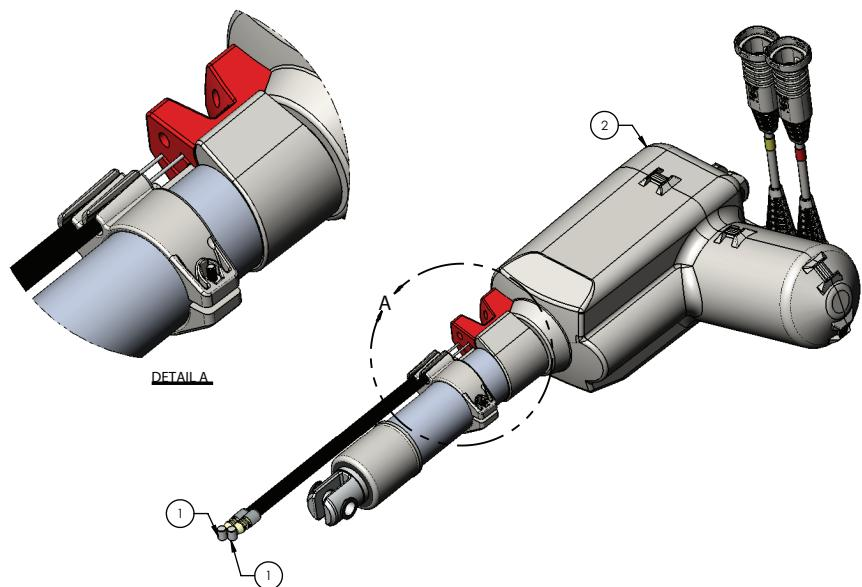

Figure 29 – Gatch CPR pull
11. Using a small flat screwdriver, remove the gray CPR pull retainer from the red CPR pull. A white spacer between the CPR pull and the CPR cable retaining bracket will fall out (Figure 29). Save the white spacer.